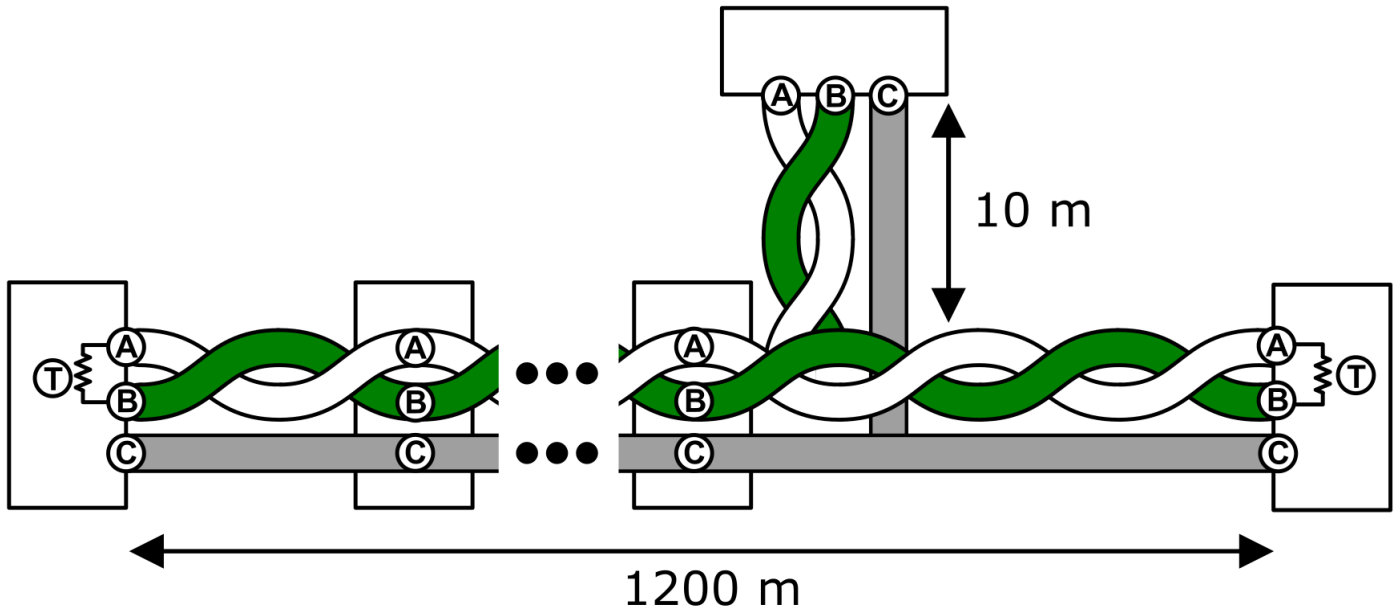

fig. 7
Twisted pair cable is used as a wire in the RS485 bus (A and B). The RS485 bus has a straight line topology with a maximum length of 1200 m. Straight line topology is recommended, and when we can't avoid a branch, let's try not to exceed 10 m. Star and ring topology should be avoided. Terminating resistors (T) must be activated at the extreme ends of the bus (fig. 7).